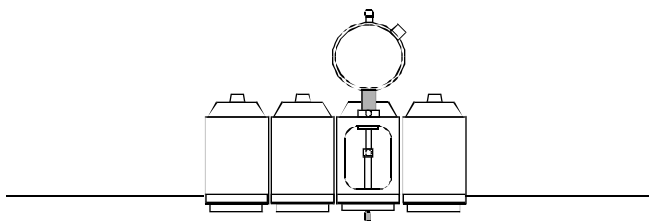

Figure 3-17. Test Cartridge Installed.
4. Remove the Cyan ink cartridge. Snap the test cartridge with the micrometer gauge into the position vacated by the Cyan ink cartridge. See Figure 3-17. Ensure that the micrometer can be read from the BACK of the printer.